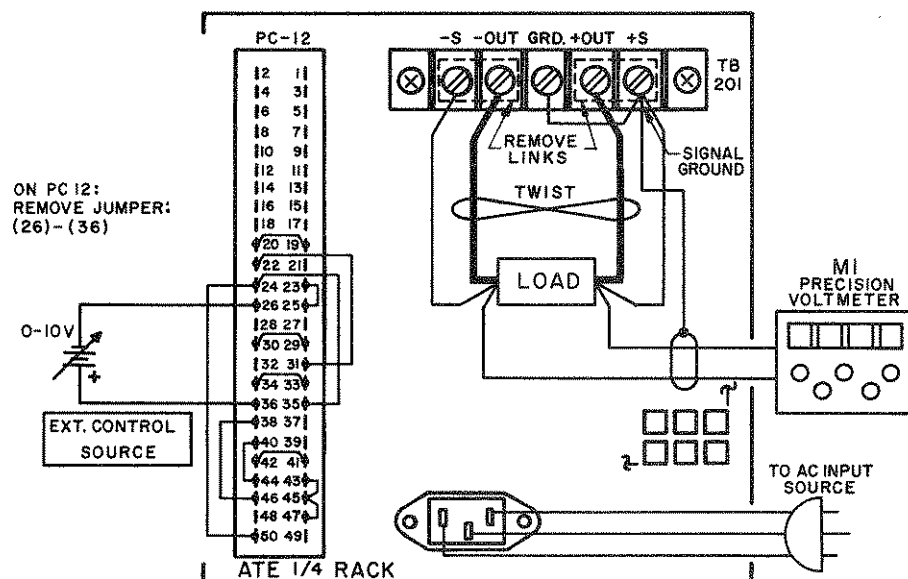

FIG. 3-14 REMOTE CROWBAR LEVEL CONTROL WITH AN EXTERNAL (0–10V D-C @ 1 mA) SIGNAL SOURCE.
- 2) Connect a substitute LOAD and the EXT. CONTROL SOURCE to the ATE as shown in FIG. 3-14. Set the EXT. CONTROL SOURCE to its maximum value.